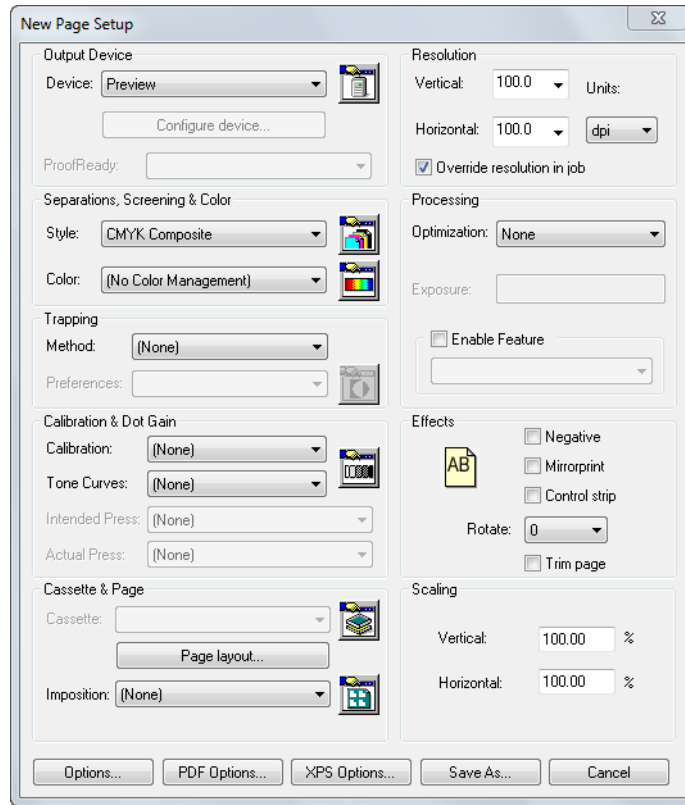

Figure 3.2 New Page Setup dialog box
3. In the Edit Page Setup dialog box, shown in Figure 3.2, set the **Device** to `None` and the **Vertical** and **Horizontal** resolutions to something small, say 72 dpi. If you change the **Device**, you must choose a separations style listed in the **Style** drop-down list and, for some devices, a cassette name from the **Cassette** drop-down list.
2. In the Page Setup Manager dialog box, select `Default Page Setup` and click **Copy** to display the New Page Setup dialog box. The New Page Setup dialog box is very similar to the Edit Page Setup dialog box, shown in Figure 3.2 on page 51.